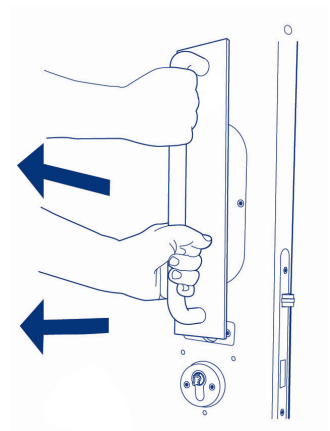

Figure 10.2
- An optional slide-over emergency pull handle can be utilised to enable more than one person to assist in pulling the door open, if there is resistance from the patient side of the door. [Refer figure 10.2]